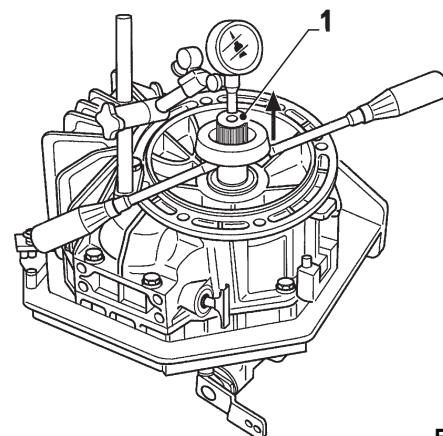

FIG. 5-4
- b) Fit clamping ring (tool p/n 219.354.3 (618582)) to the spline of the input shaft (item 1, Fig. 5-4).